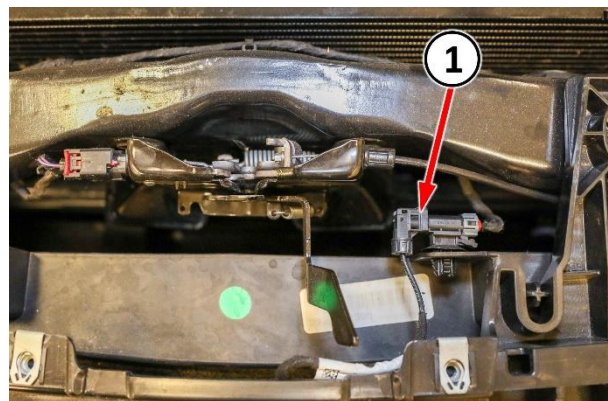

Figure B11 – Front Camera Connector
16. Disconnect the front camera electrical connector located near the hood latch (Figure B11).
42. Connect the front view camera connector (Figure B11).